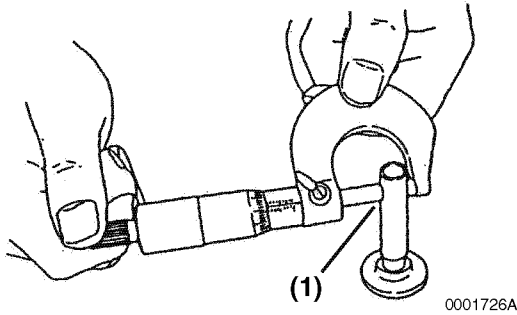

Figure 6-121
2. Measure the outside diameter of the tappet stem (**Figure 6-121, (1)**). See *Tappet* on page 6-21 for the service limit.